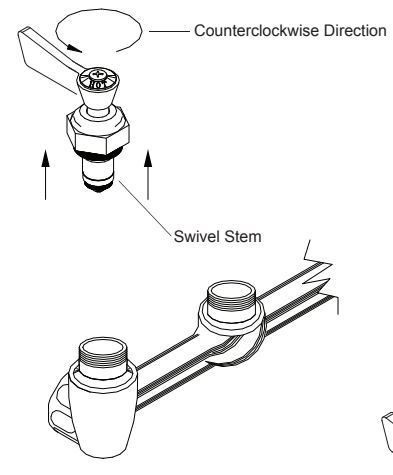

Fig.1 ( Removal of Swivel Stem)
2. Remove the bibb cap ( see Fig.1 ) by turning it counterclockwise (May require crescent wrench)